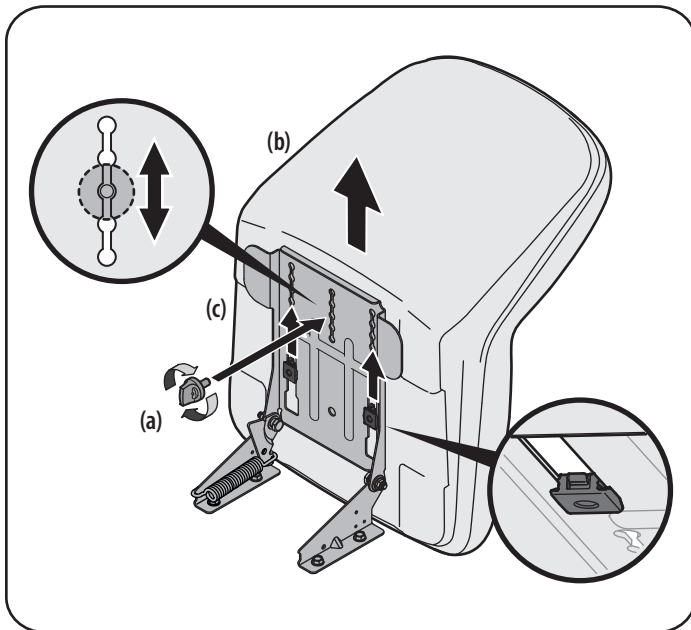

Figure 7
3. Slide the seat (b) rearward in the seat pivot bracket (c), lining up the center rear slot in the seat pivot bracket (c) with the remaining hole in the seat (b) base. See Figure 7.
**NOTE:** Be certain the two seat tabs engage the seat pivot bracket as shown in the bottom right inset of Figure 7.
4. Select the desired position for the seat (b), and secure with the adjustment knob (a) removed in Step 1. See Figure 7.
5. To adjust the position of the seat, remove the adjustment knob (a) on the bottom of the seat (b). Slide the seat (b) forward or backward as desired. Reinstall the adjustment knob (a). See Figure 7.